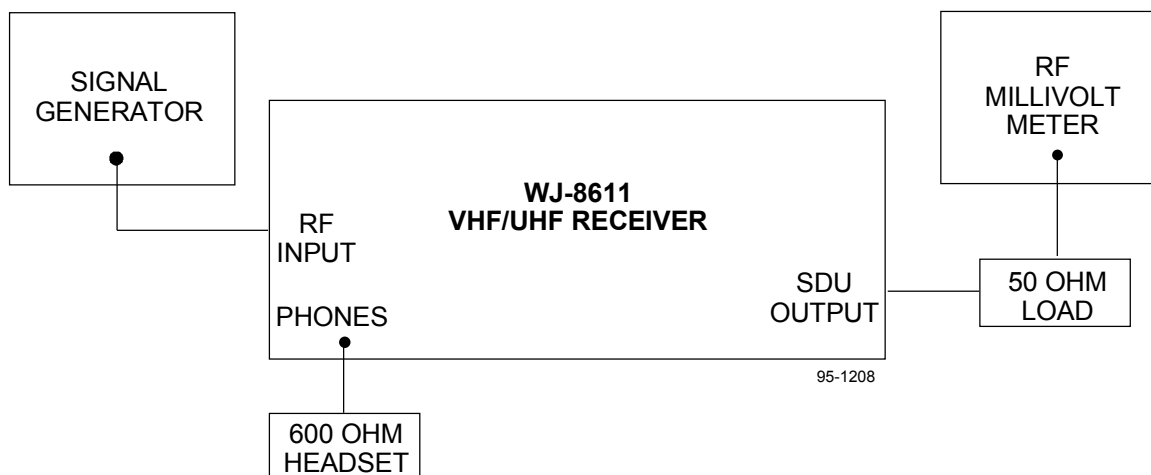

Figure 6-2. SDU Output Performance Test Equipment Connection
1. Connect the signal generator to the RF Input of the receiver. Connect the RF millivoltmeter and 50-ohm load to the SDU Output, as illustrated in **Figure 6-2**.